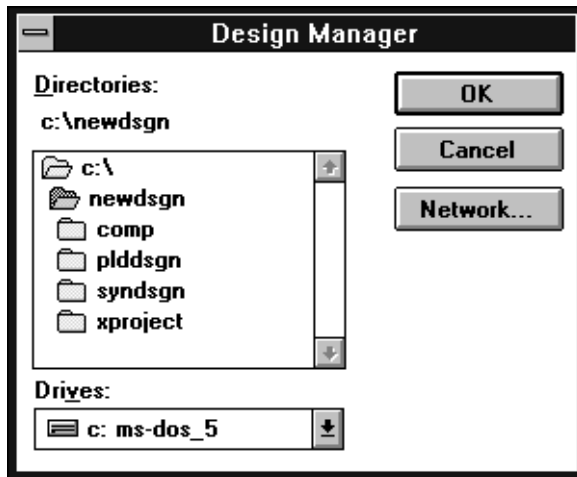

Figure 2-19 The Export Data Browse Dialog Window
- **Export To:** Enter the full path of the file to which you are exporting the data. Select Browse to see a list of all available files as shown in Figure 2-19.